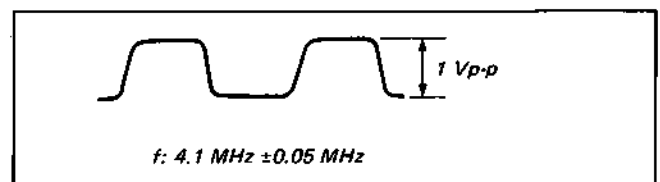

Fig. 5-36. Y-FM carrier 2 adjustment
(1) Set to BETA HI-FI recording mode (BETA HI-FI selector switch: ON)
(2) Adjust to $4.1 \text{ MHz} \pm 0.05 \text{ MHz}$ with RV204. (See Fig. 5-36)